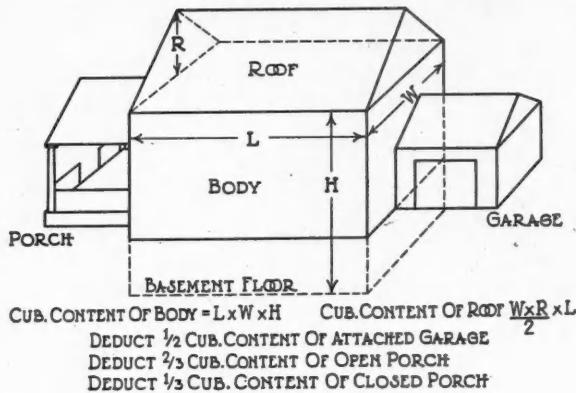

Figure 1
**First:** the total contents of the structure are computed by measuring from exterior walls to exterior walls and from cellar floor to finished roof. Where the roof is irregular or fairly complicated, don't guess at its contents but figure it mathematically. Stated simply the cubic content of a house is found by multiplying the length times the width times the height. (See fig. 1)